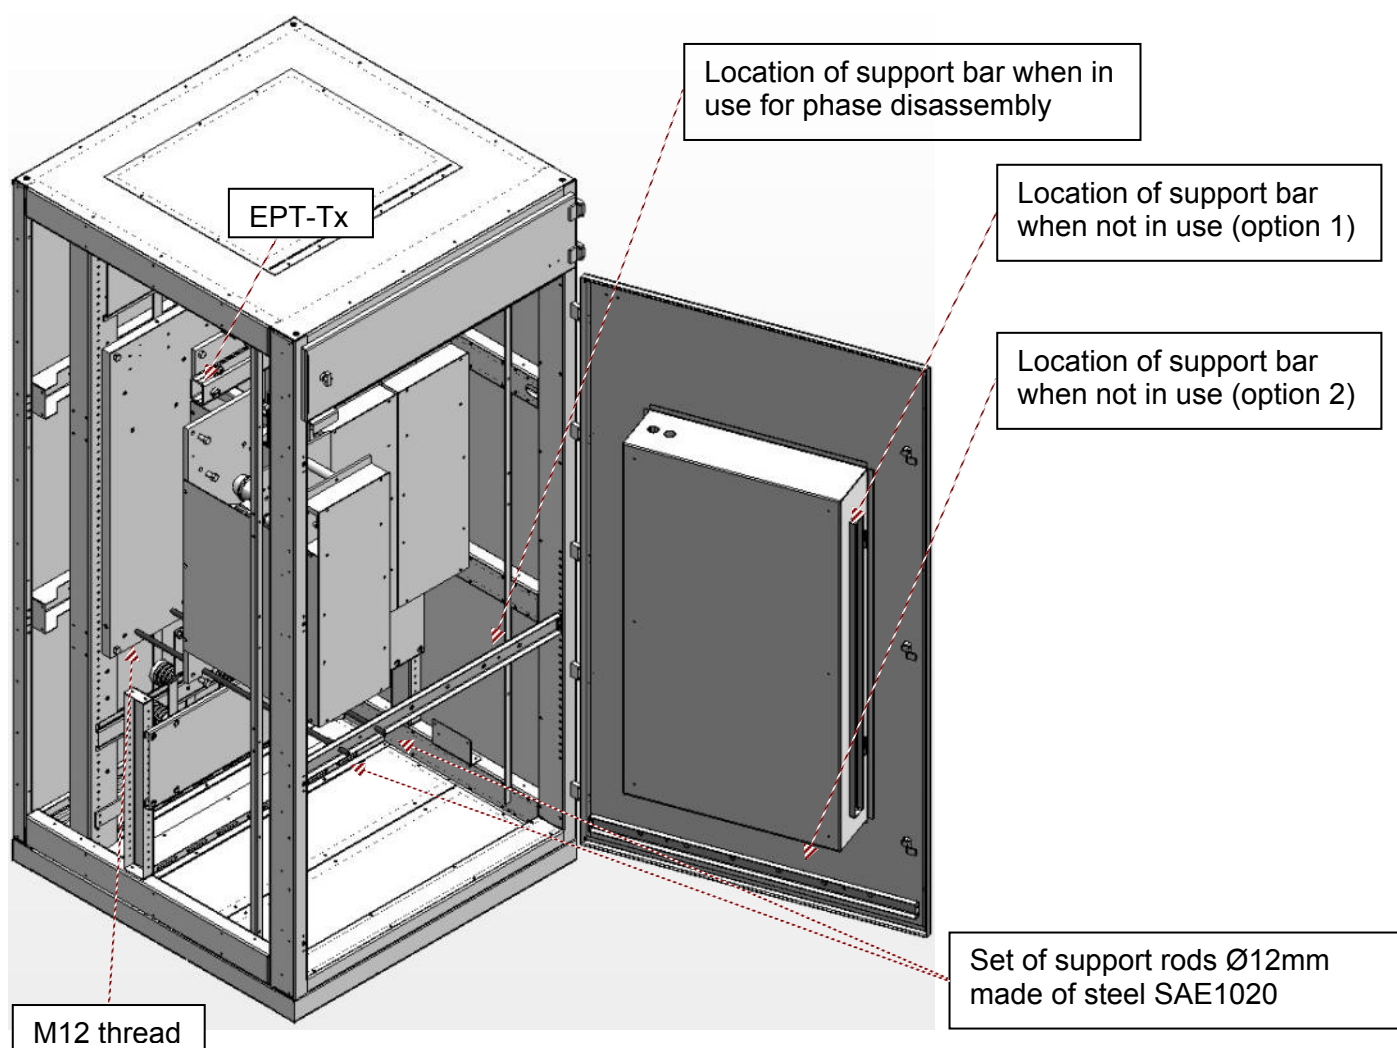

Figure 14 – HRVS-DN up to 6.6kV - Phase Disassembly Accessories
- (1) Do not mount the HRVS-DN near heat sources.
- (2) Cabinet internal temperature should not exceed 50°C. Refer to section 6.2 page 40 for heat dissipation of the soft starter during operation.
- (3) Protect the HRVS-DN from dust and corrosive atmospheres.
- (4) In order to perform low voltage test, certain provisions should be applied:
- c. To allow phase disassembly, provide for the following assembly precautions (Refer to *Figure 14*) for: